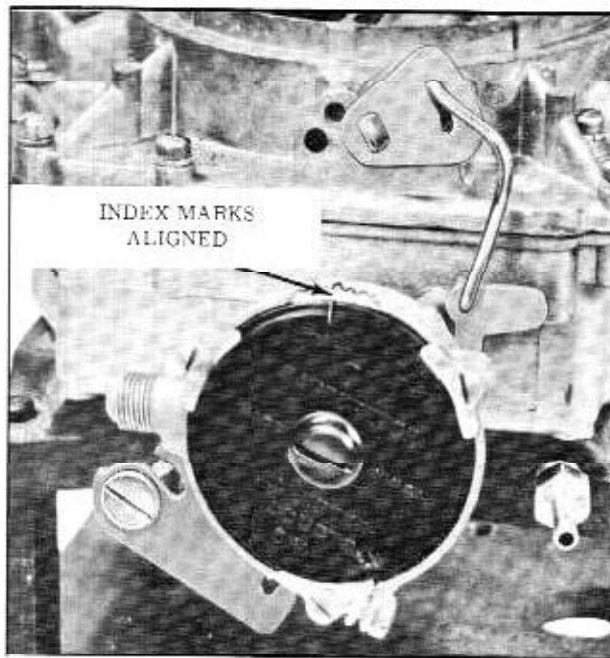

Fig. 8-113 Choke Coil Setting
4. Rotate cover counterclockwise until coil picks up tang on piston linkage. Continue rotating cover until scribe line on cover is on index. (Fig. 8-113)